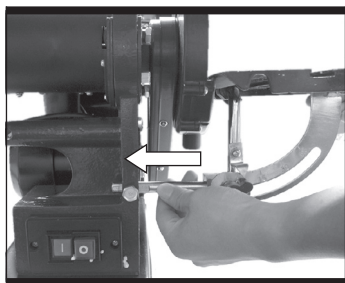

Fig 6
5. Mounting the worktable for use with the disc sander (See Fig 6&7)
1) Insert the worktable support bar into the hole as shown in Fig 6.